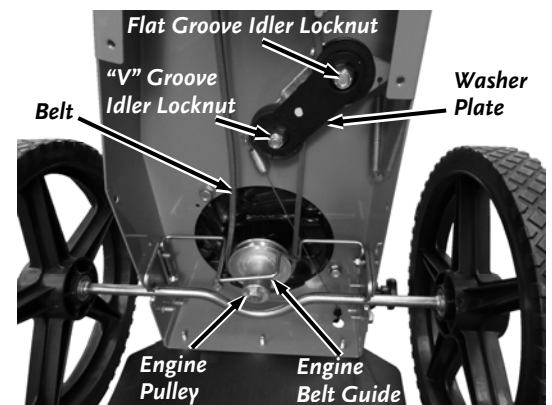

Figure 26
Note: You should be able to remove the Belt with the Engine Belt Guide in place, but if not, remove the Engine Belt Guide Locknuts using a 7/16" Wrench (**Figure 26**) to remove the Guide.
10. Rotate the Washer Plate onto the Flat Groove Idler Stud and install the Locknut using a 9/16" Wrench (**Figure 26**). Tighten both Idler Locknuts using a 9/16" Wrench.